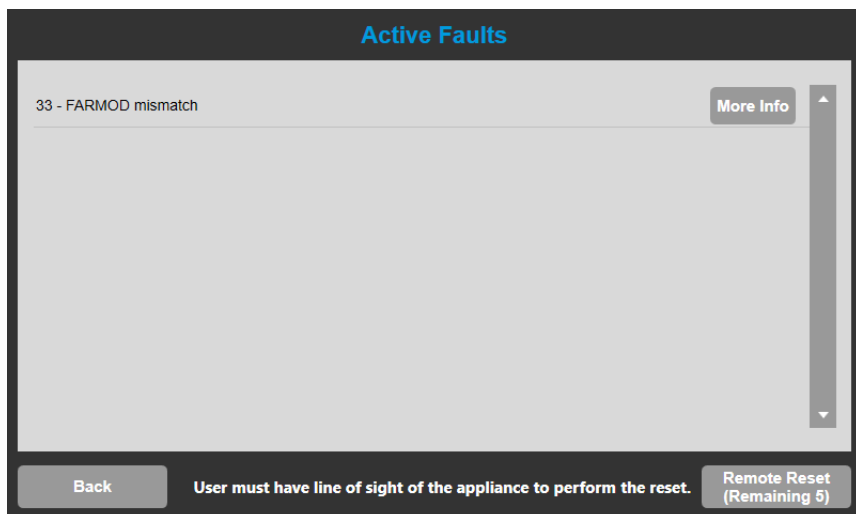

Fig. 130: Active faults with previously configured / used FARMOD.
2. Once the valve is repowered, there will be a FARMOD mismatch active fault present. Refer to Fig. 130.